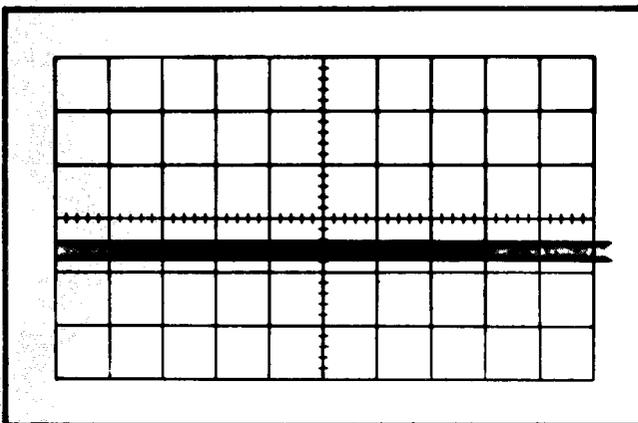

Fig. 5-8. Typical CRT display showing correct common-mode rejection ratio.
e. CHECK-CRT display for 0.4-division deflection, or less (common-mode rejection ratio 20:1 or better; see Fig. 5-8).